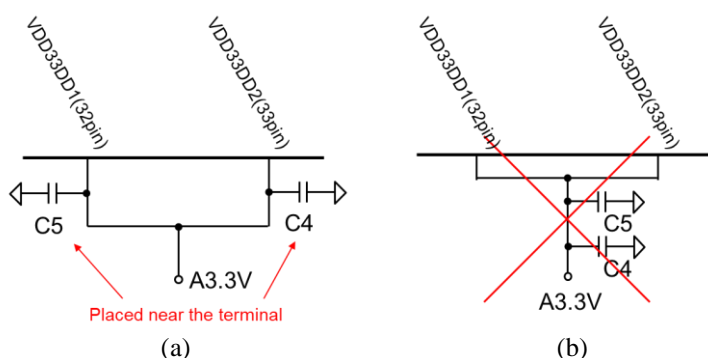

Figure 2-7 Example of connecting the decoupling capacitor of the power supply terminal of the DC-DC converter
- Figure 2-7 shows an example of connecting the decoupling capacitor of the power supply terminal of the DC-DC converter. As shown in (a), place the decoupling capacitor in the immediate vicinity of the power supply terminal.